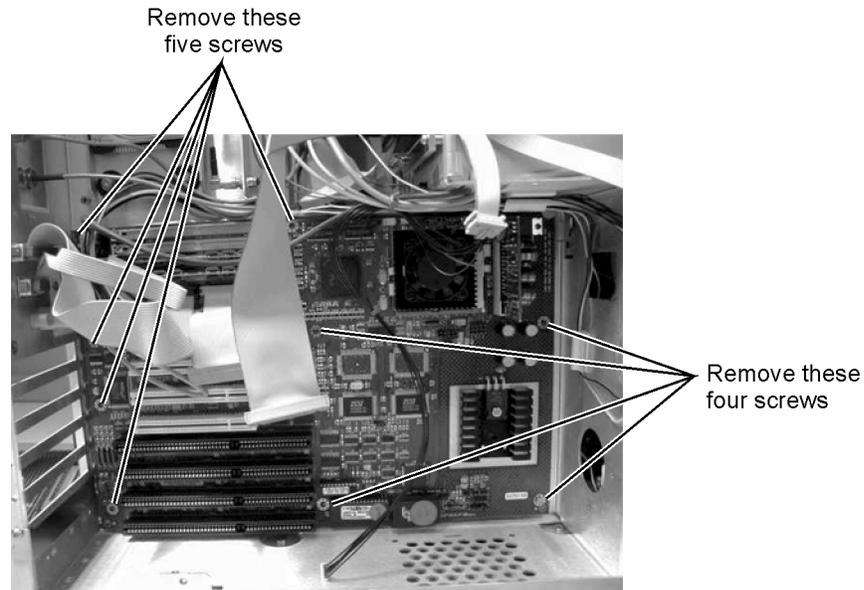

Figure 4-40. Removing the Screws from the Motherboard
- 6 Use a T-10 TORX driver to remove nine screws that secure the motherboard, as shown in Figure 4-40.